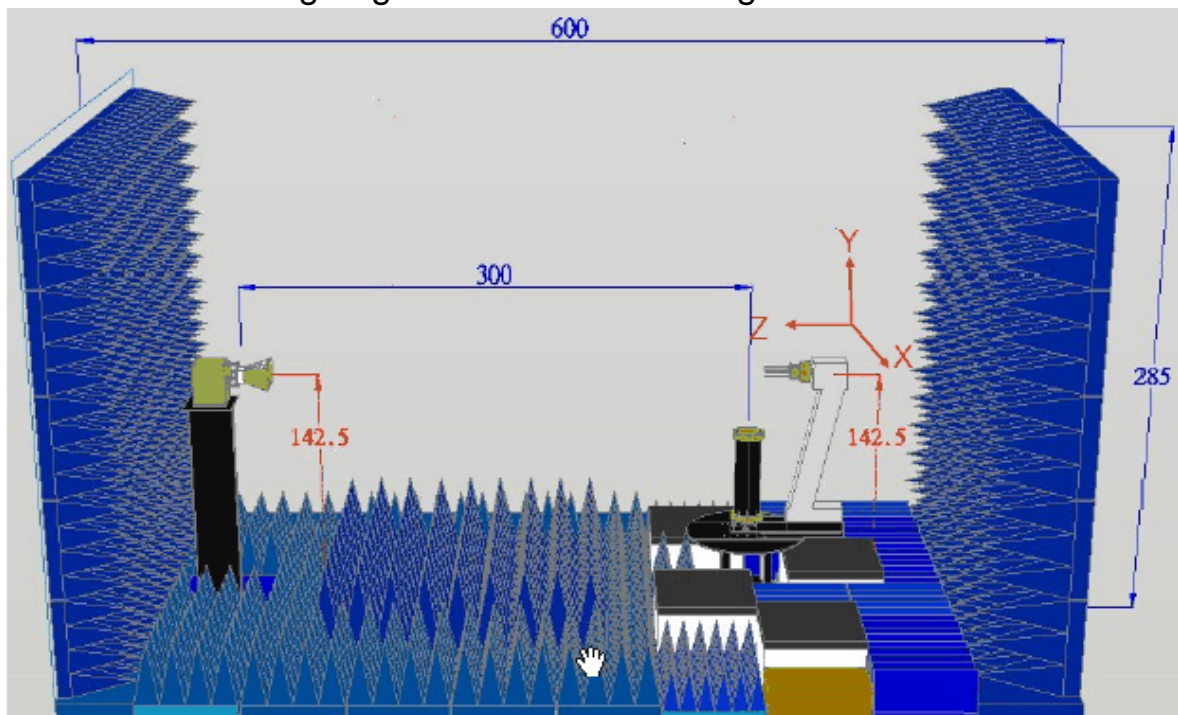

Fig.2 The interior components of the anechoic
- (1) The anechoic chamber is a far-field measurement system with size of 3.25M*2.84M*6.4M. The quiet zone of this chamber shall be greater than 70cm @ 0.9GHz, 50cm @ 1.8GHz, 44cm @ 2.4GHz, 28cm @ 5.8GHz, 16cm @ 18GHz.
- (2) Fig.2 shows the interior components of the anechoic chamber. The antenna standard antenna as probe and antenna under test is 3M. The antenna under test is fixed on two step rotators. We control the rotating angle for accurate or rough measurement.